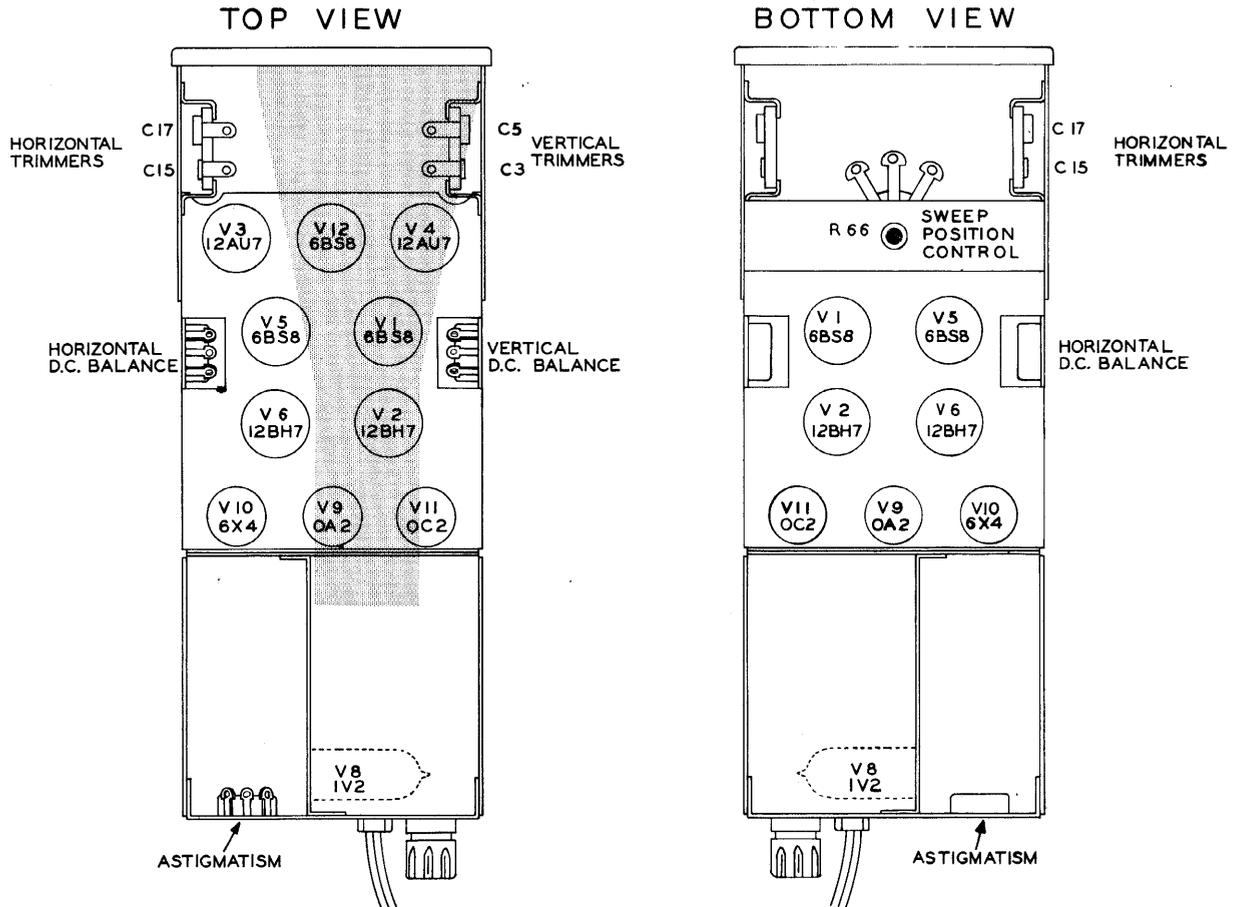

Figure 23
- () Refer to the tube location Figure 23 and install the tubes. Also install one of the fuses in the fuse holder.
NOTE: Figure 23 shows tube and adjustment control locations.